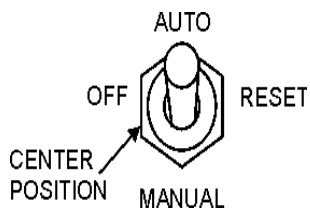

Figure 69. Off/Manual Auto Switch
5. Turn the Auto-Off/Reset-Manual switch from the MPEC to "OFF/Reset" position (Figure 69).